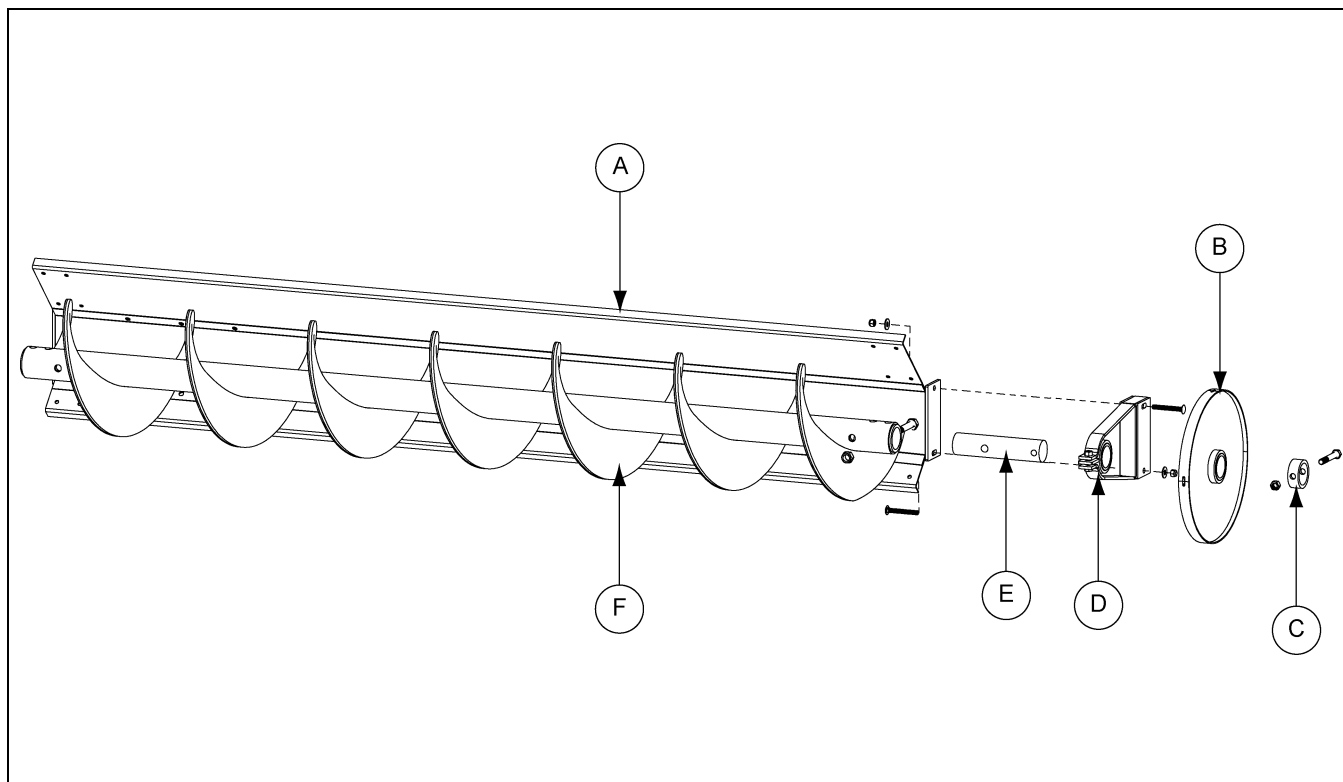

Figure 4AA End Wheel Assembly
1. Connect the stub shaft (E) into the sweep flight (F) using a 5/8"-11 x 4" hex head cap screw and 5/8" stover nut.
2. Install the bearing stand assembly (D) onto the stub shaft (E) and bolt it to the sweep shield using two (2) 3/8" x 3" carriage bolts, flat washers and nylock nuts.
3. Install the end wheel (B) and collar (C) onto the end of the stub shaft (E). Pin the collar in place with a 1/2" x 3-1/2" hex head cap screw and prevailing torque lock nut. (See Figure 4AA.)